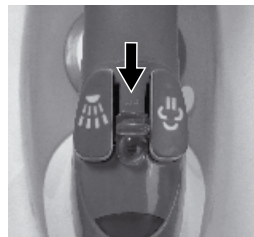

Fig. 2
6. Turn and hold the steam volume regulator in position **OFF**. **Push and hold** the Self-clean button with your other hand (Figs. 2 and 3). Water will pour out of the steam holes in the ironing surface, which will rinse minor sediment from the steam chamber.